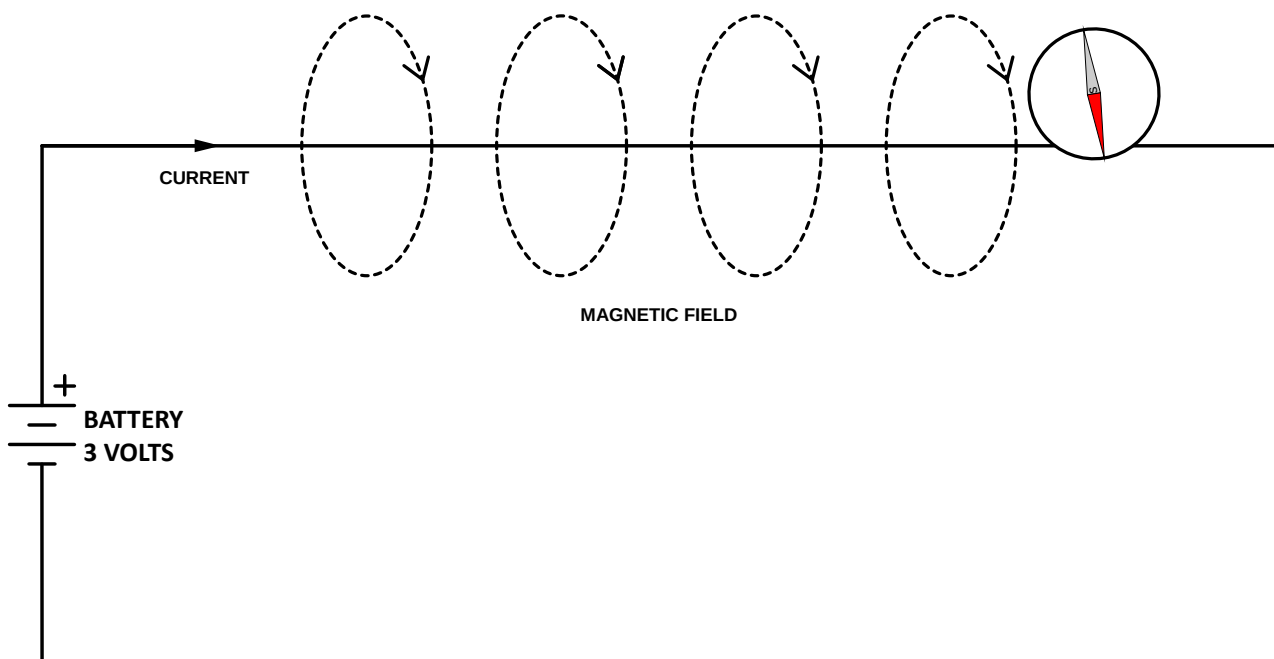

Figure 46: Electromagnetic induction
3. Explain: When an electric current flows through a wire, it induces a magnetic field in the form of a circle around the wire as shown in Figure 46.